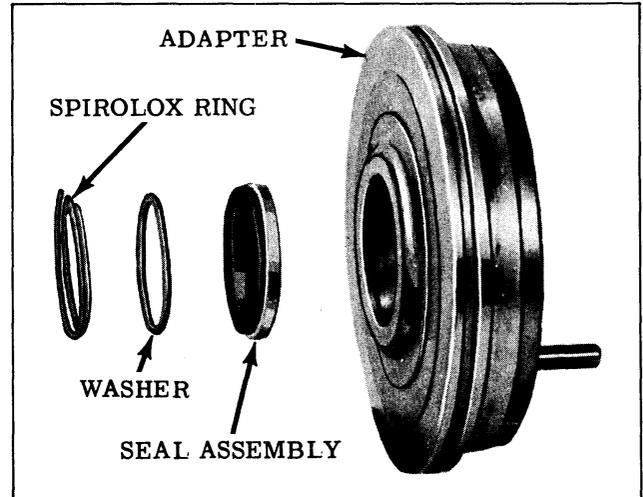

Fig. 5-52 Adapter Oil Seal
9. Remove the Spirolox ring and push the washer and seal assembly from the adapter. (See Fig. 5-52)